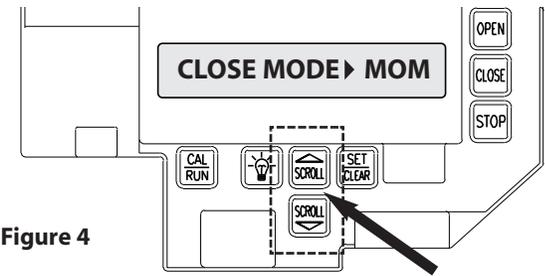

Figure 4
- 3) Press SCROLL (DN) until display reads "CLOSE MODE." **Fig. 4.**